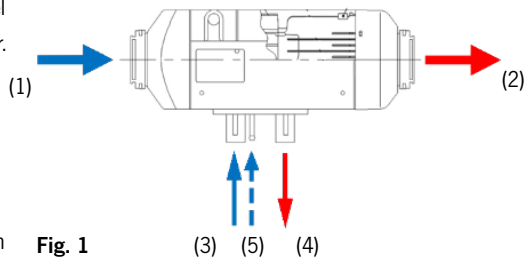
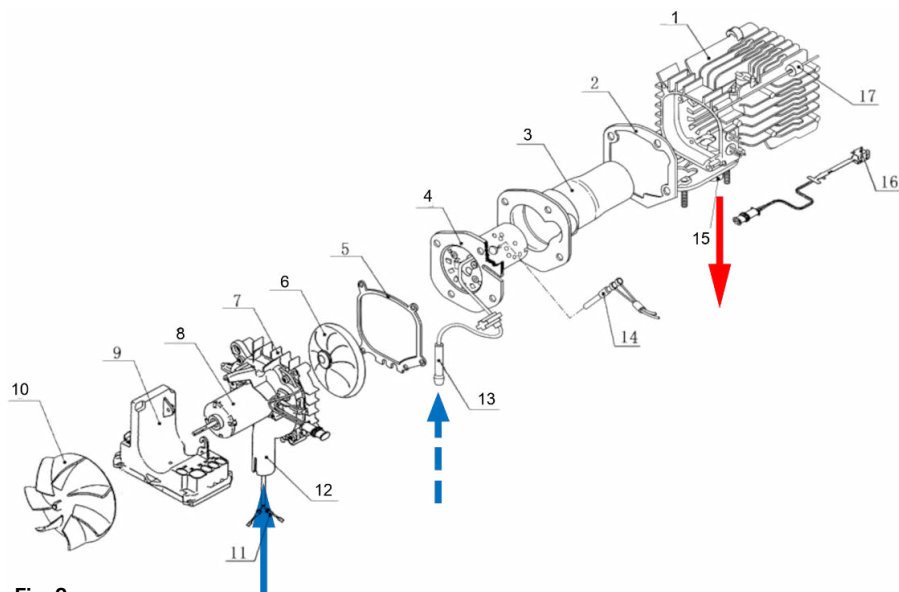
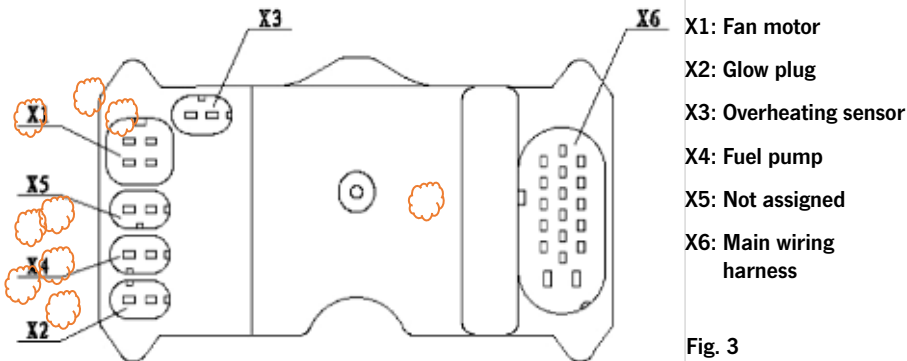

Fig. 1
Fig. 2
Fig. 3
[Page 80 Fig. 2 (4)]
and a combustion chamber [Page 80 Fig. 2 (3)]
[Page 80 Fig. 2 (1)].
Cold air is sucked into this passage by the impeller [Fig. 1 (1)] [Page 80 Fig. 2 (10)]. After passing the heat exchanger hot air is blown out [Fig. 1 (2)].
For the burning process the heater must be supplied with fuel and fresh air. The fuel enters the burner through the fuel pipe inlet [Fig. 1 (5)] [Page 80 Fig. 2 (13)] and is ignited by the glow plug [Page 80 Fig. 2 (14)] after its atomization. The flame enters the gap between the walls of the burner [Page 80 Fig. 2 (4)] and the combustion chamber [Page 80 Fig. 2 (3)] at the rear of the burner.
The supply of combustion air is provided by the air intake [Fig. 1 (3)] [Page 80 Fig. 2 (12)]. The inner supply air fan [Page 80 Fig. 2 (6/8)] forces the air into the burner. After the combustion of the air and vaporized fuel mixture the exhaust is discharged through the exhaust gas stub [Fig. 1 (4)] [Page 80 Fig. 2 (15)].
The controller [Page 80 Fig. 2 (9)] is situated in the anterior part of the heater behind the impeller of the heating air fan. Its main tasks consist of collecting all data of the heater (e.g. temperature sensors, drive circuit, frequency, rotational speed, voltage, and more). Based on these data the controller automates the heating process, the system surveillance and the handling of system malfunctions.
The overheating sensor [Page 81 Fig.3 (X3)] is installed on the back outer wall of the heat exchanger [Page 80 Fig. 2 (16)]. If the temperature of the aluminium becomes higher than a defined upper limit, the fuel pump circuit will be cut off by the controller and the supply of fuel is stopped immediately. Then for purpose of overheating protection the heater is turned off.